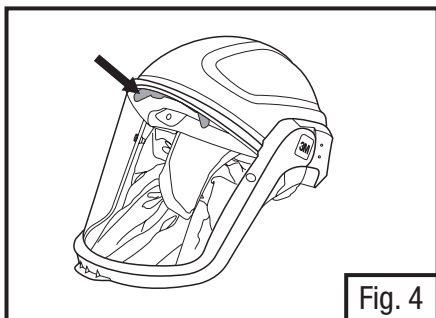

Fig. 4
6. If needed, adjust the airflow inside the headgear for wearing comfort. To adjust, raise the visor into the up (open) position. Locate the blue air deflector in the front of the headgear and rotate. Fig. 4 shows where the air deflector is located. There are two positions. Adjust fully open for more airflow across the face or partially closed to re-direct a portion of the air towards the visor. After adjusting the air deflector, lower the visor back into the down position.